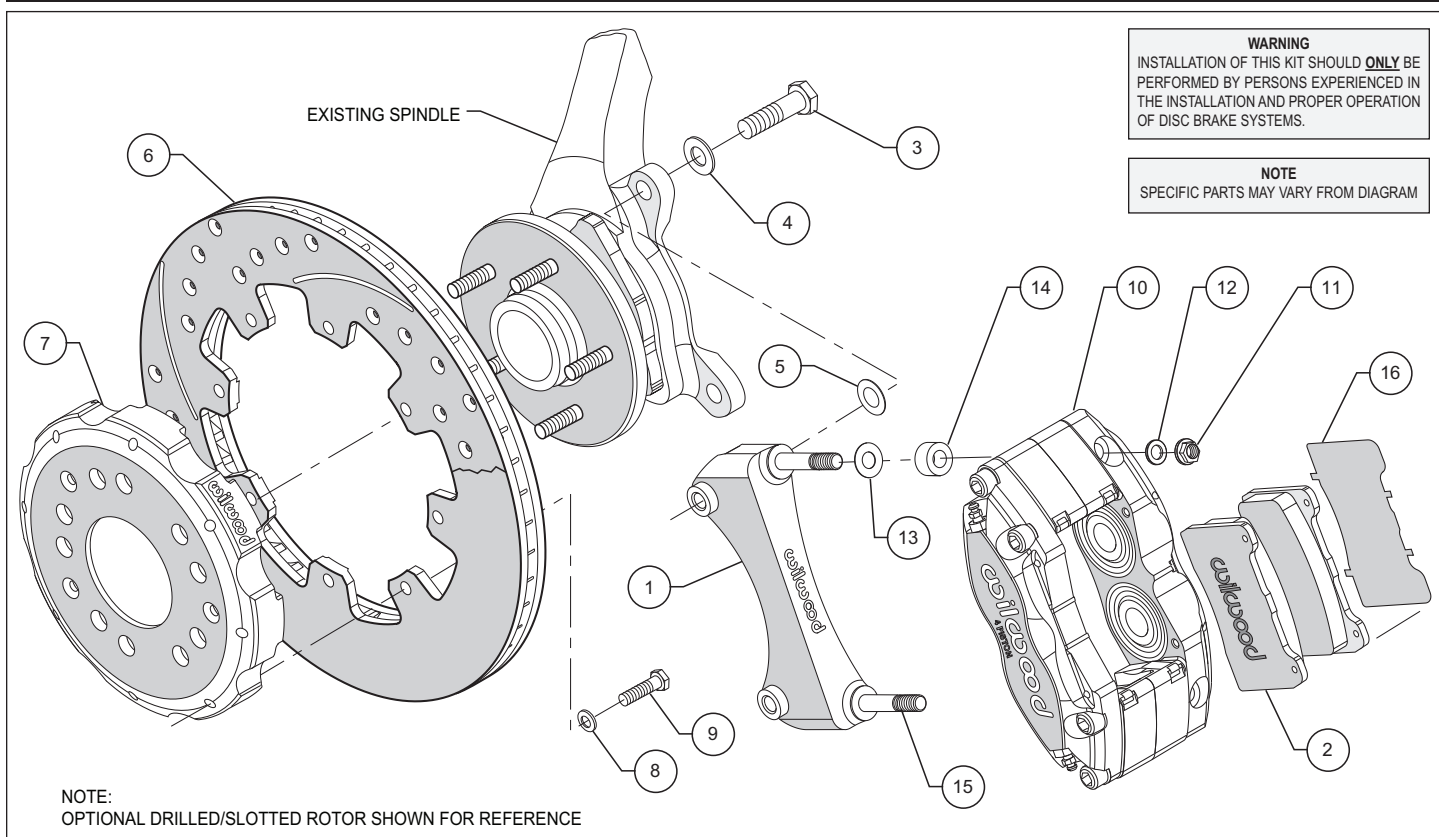
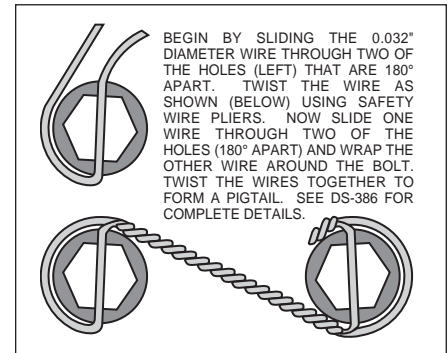

Figure 1. Typical Installation Configuration
Figure 3. Safety Wire Diagram
- The caliper mounting bracket assembly (1) should be installed first with clean, dry threads on the mounting bolts. Install the bracket from the front side of the spindle by sliding bolts (3) through washer (4), as shown in Figure 1. Place shim (5) between the bracket and the front side of the spindle, Figure 1. The bracket must tighten squarely against the side of the spindle body. Inspect for interference from casting irregularities, machining ridges, burrs, etc. Use one thin shim (5) between the spacer and spindle during initial trial fitting.
- With the larger I.D. side of the rotor (6) facing away from the hat (7), attach rotor (6) to hat (7) using washers (8) and bolts (9) as shown in Figure 1. Using an alternating sequence, remove bolts (9) one at a time, apply red *Loctite*® 271 to the threads, and torque to 120-144 **in-lb**. Safety wire bolts (9) using standard 0.032 inch diameter stainless steel safety wire as shown in Figure 3. Please refer to Wilwood's data sheet DS-386 (available at [www.wilwood.com/pdf/ds386.pdf](http://www.wilwood.com/pdf/ds386.pdf)) for complete safety wire installation instructions. **NOTE:** The rotor hat included in this kit is a multiple use part and has two 5 x 4.50" bolt circles. For correct use in this application, use the bolt circle with the smaller diameter (.484") stud holes. For further reference, check the inside face of hat assembly, one of the smaller diameter stud holes will have a circular reference mark engraved around its circumference. Do not use the larger diameter stud holes, as rotor and hat will not center correctly on hub. Slide the rotor/hat assembly onto the axle hub. Install three lug nuts (finger tighten) to keep the rotor/hat assembly in place while continuing with the installation.